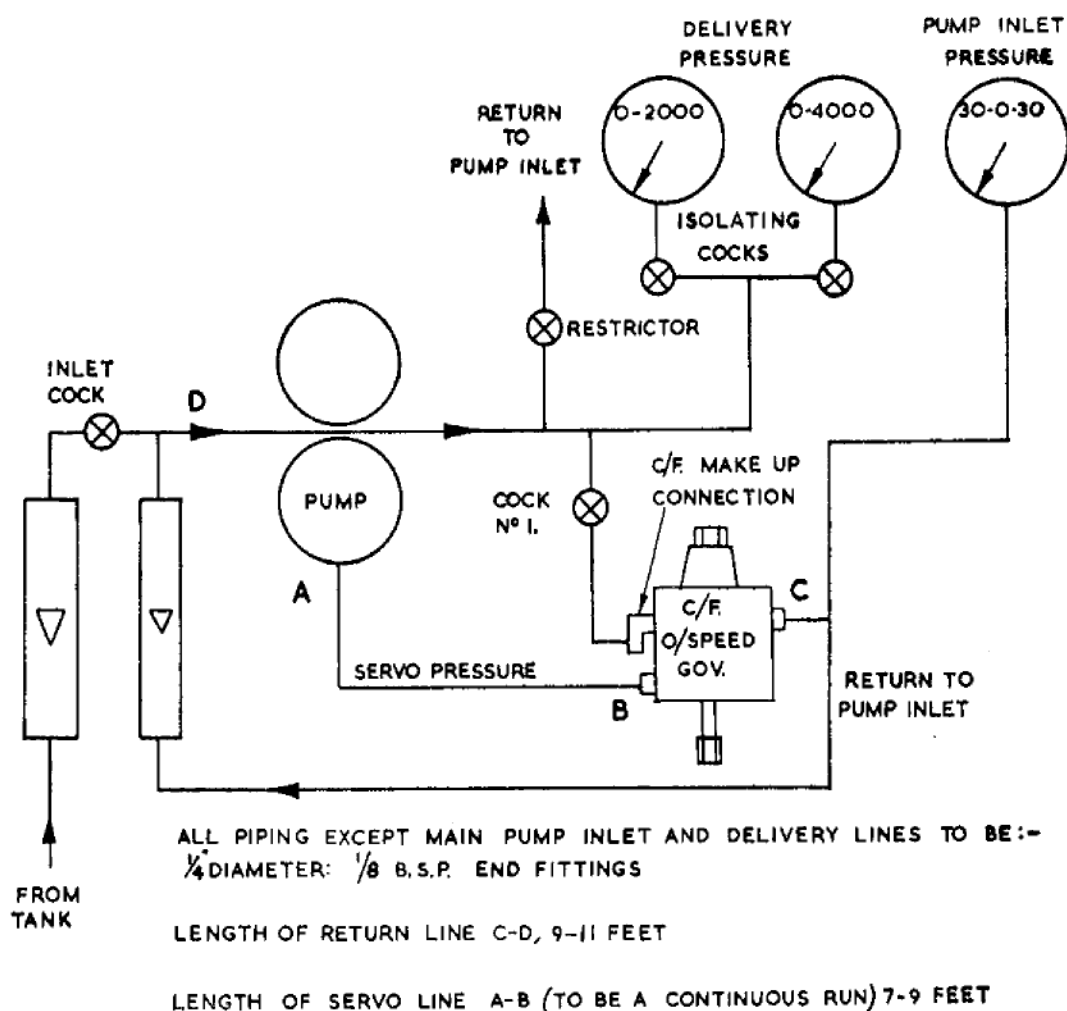

Fig. 10. Diagrammatic layout of test rig
1. The unit should be installed to the test rig as shown in the diagrammatic layout, fig. 10. Reference must be made to applicable paragraph in the chapter.